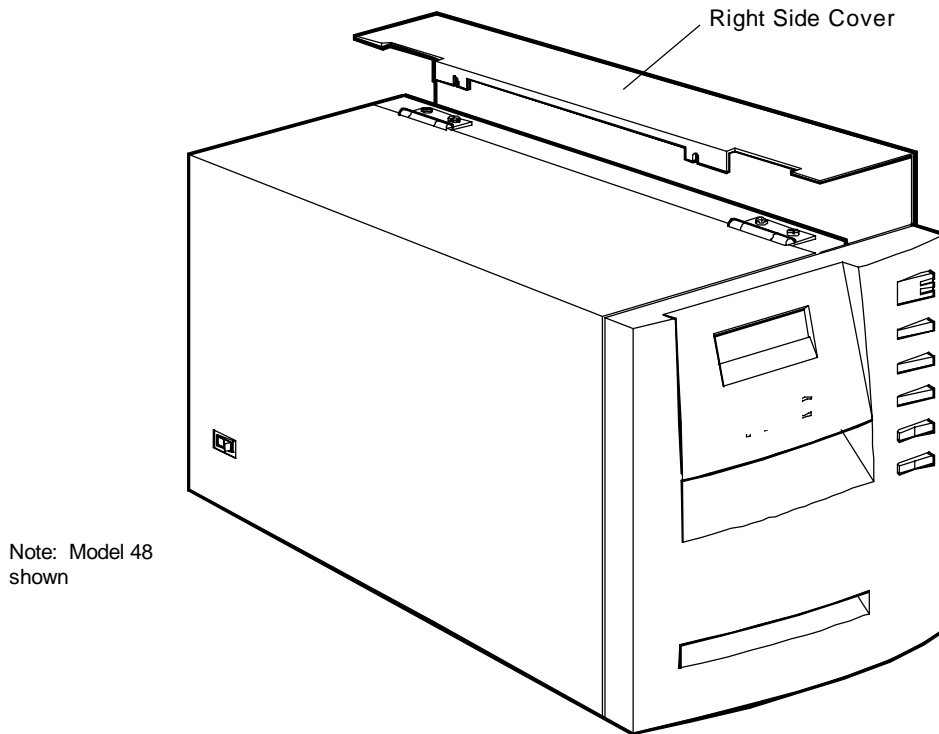

Figure 4-2 Right Side Cover Removal
5. Lift the right side cover up and away from the printer (see Figure 4-2).